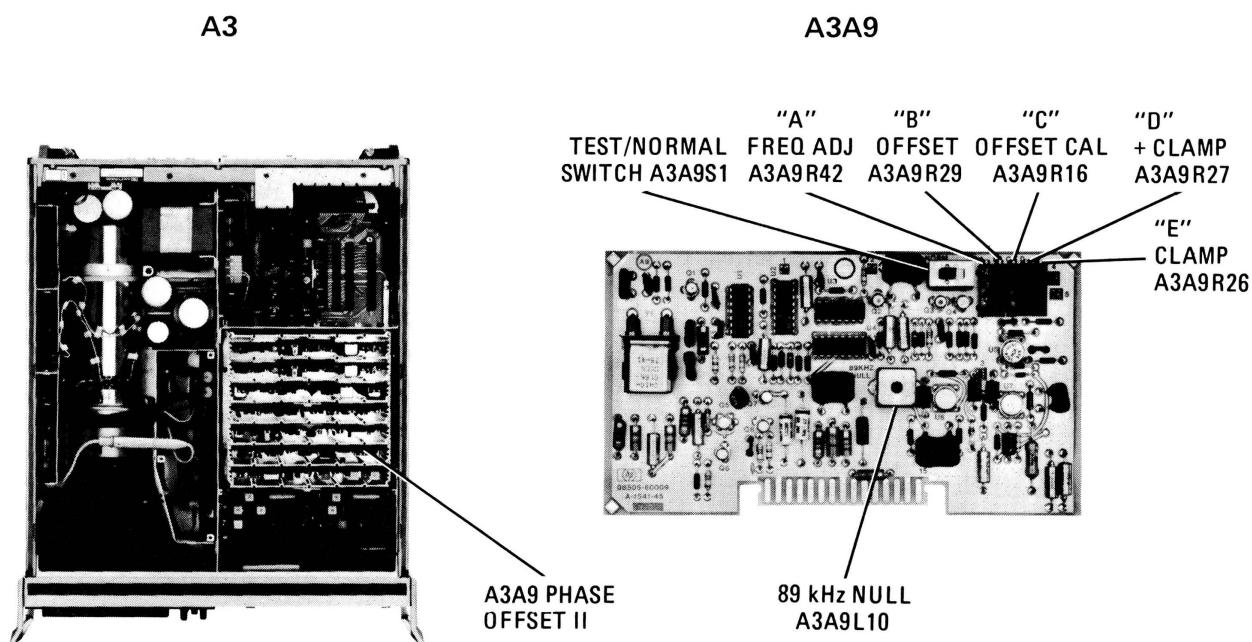

Figure A5-36. A3A9 Phase Offset II Adjustment Locations
- l. Set A3A9S1 TEST switch to TEST position (right). (See Figure A5-36).
- m. Connect external Frequency Counter to pin 15 of A3A9 connector. (Use a 10:1 oscilloscope probe to avoid loading circuit.) If the counter indicates $893 \text{ kHz} \pm 3 \text{ kHz}$, go to next step. Adjust "A" control A3A9R42 (Figure A5-36) for an output frequency of $893 \text{ kHz} \pm 3 \text{ kHz}$. Disconnect Frequency Counter.